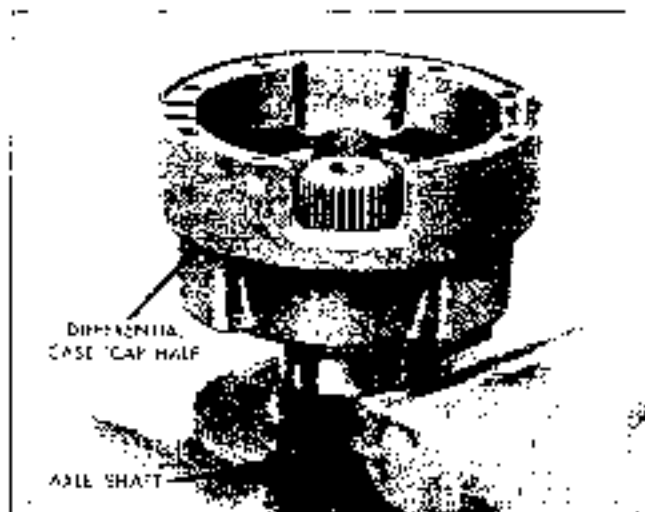

Fig. 4B-11 Axle Shaft and Cap Half of Case - Two or four Pinion Tempest and Firebird
1. Clamp one axle shaft in vise, allowing three inches to extend above vise jaws. Then place cap half of differential case over extended axle shaft, with interior of case facing up (Fig. 4B-11).